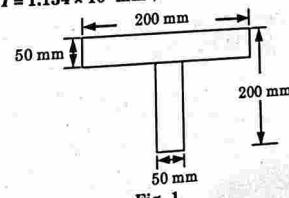

Fig. 1.
Q. 9. A shearing force of 180 kN acts over a T-section shown in Fig. 1. Draw the shear stress distribution curve. (Take $I = 1.134 \times 10^8 \text{ mm}^4$).